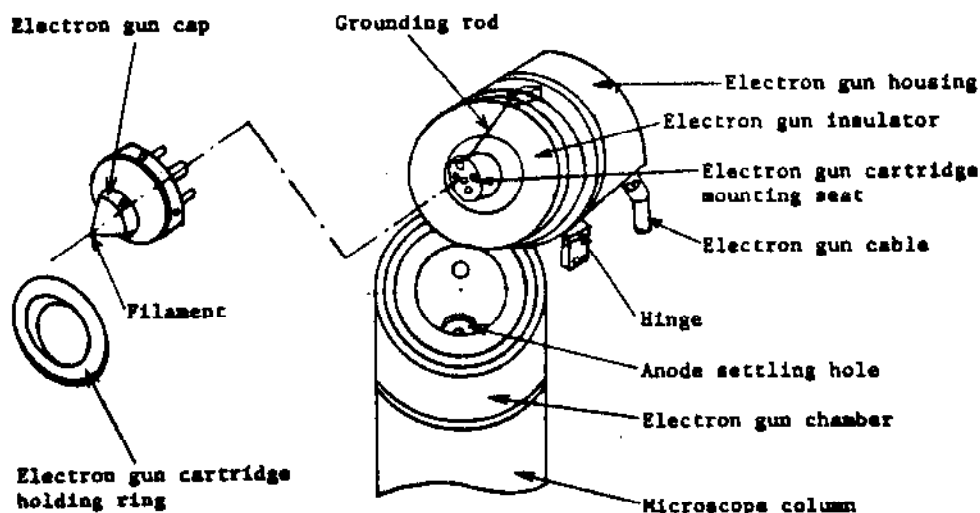

Fig. 2
3. Swing the electron gun back on its hinge (Refer to Figure 2). Make sure that the contact rod touches the gun cartridge before touching the cartridge by hand.